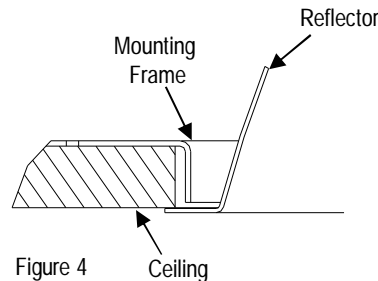

Figure 4
3. Once mounting frame has been secured in structure, adjust the mounting frame vertically to align the bottom edge to either flush or slightly above (1/8" max) the ceiling line as shown in Figure 4. Secure mounting frame into position by closing the clamping latch arm.
3. If non-flexible wiring method is used, follow procedure for flexible wiring method. Then lower mounting frame equal to the thickness of the finished ceiling or slightly above as shown in Figure 4.